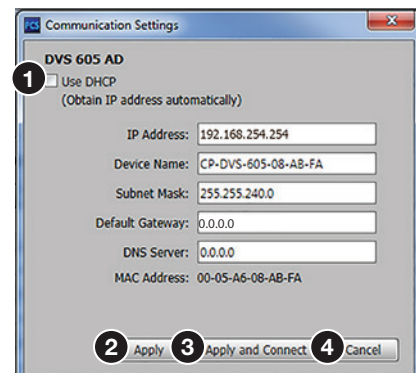

Figure 31. Communications Settings Dialog Box
2. Enter the relevant details for each field or select the **DHCP** checkbox (see figure 31, **1**). See Ethernet Settings on page 111 for configuration details).